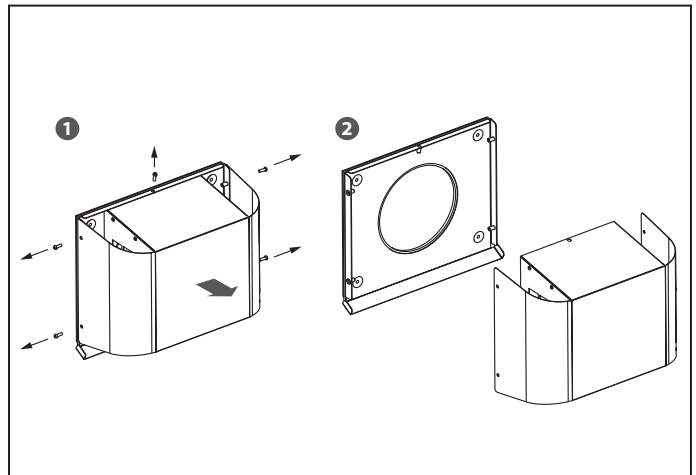

Fig. 13b.
- Fig. 13b - for VENTO Expert A50-1 S Pro model. Remove 5 screws and take off the front part of the ventilation hood.